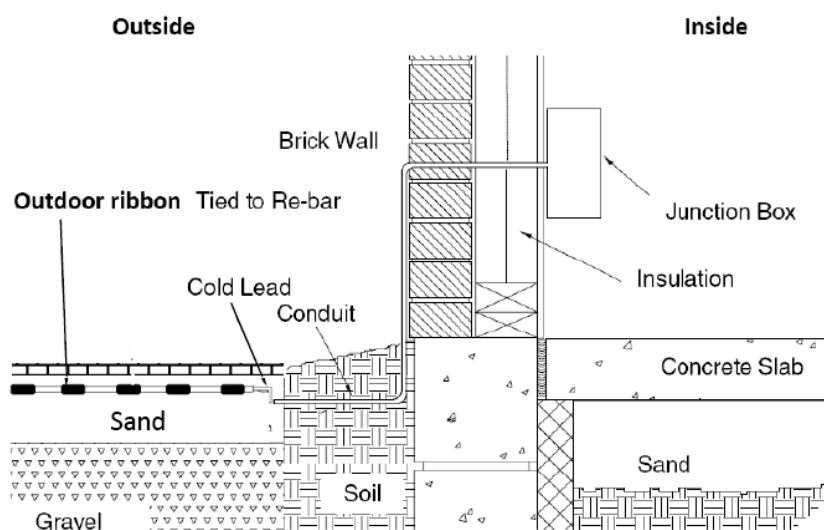

Fig. 5.
- Provide suitable reinforcing .Refer to Fig. 5.